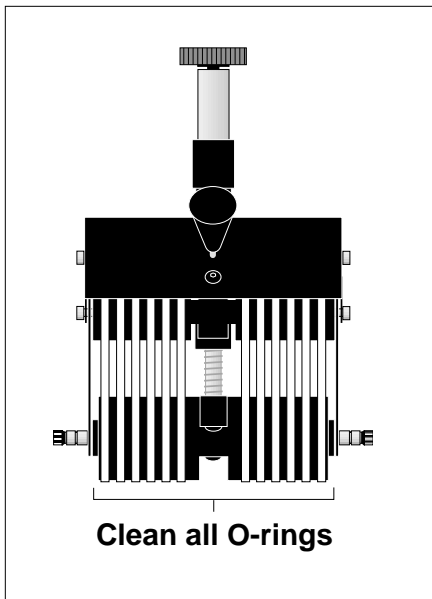
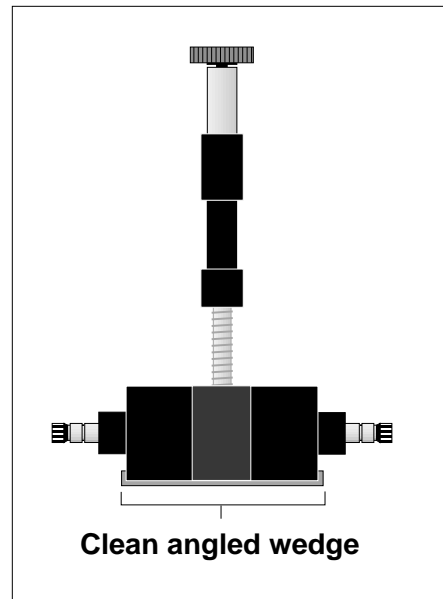

Figure 6-13. Advancing O-Ring Gate
Figure 6-15. Bar Gate
5. Wipe across O-rings (Figures 6-13 or 6-14), or angled wedge if applicable (Figure 6-15). First wipe in one direction, then the other.